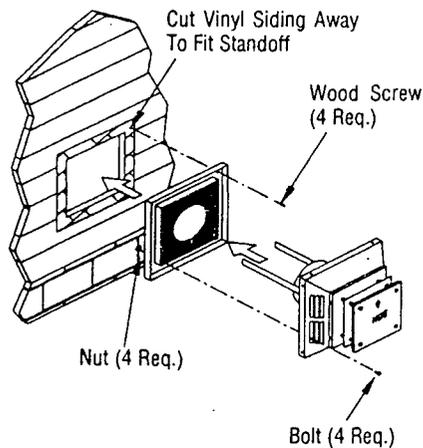

Figure 22
2. Venting termination shall not be recessed into a wall or siding. For buildings with vinyl sidings, a Vinyl Siding Standoff (Dura Vent Part No. 950) should be installed between the vent cap and the exterior wall (Figure 22). Attach the Vinyl Siding Standoff to the Horizontal Vent Termination. The Vinyl Siding Standoff prevents excessive heat from possibly melting the vinyl siding material.